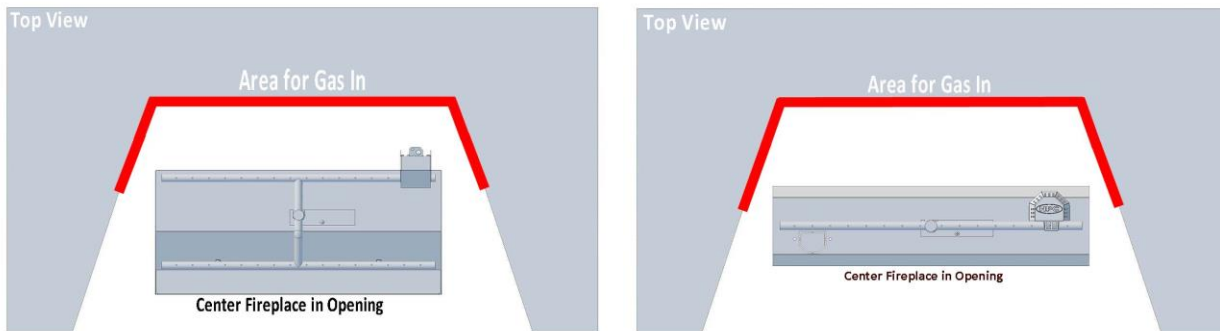

Figure 5.1 – Gas lines and fireplace locations
- Gas lines should be behind or to the side of the fireplace insert. See Figure 5.1. Center fireplace in opening.